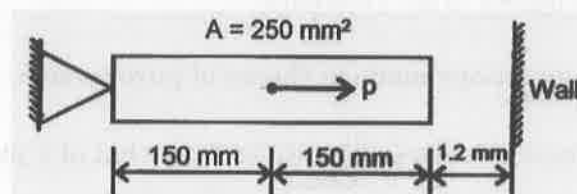

Figure 2
12. (a) A bar subjected to a load of $p = 750$ kN is shown in figure 2. Determine the following:
- (i) Nodal displacements. (4)
- (ii) Element stresses (4)
- (iii) Support reactions. (5)